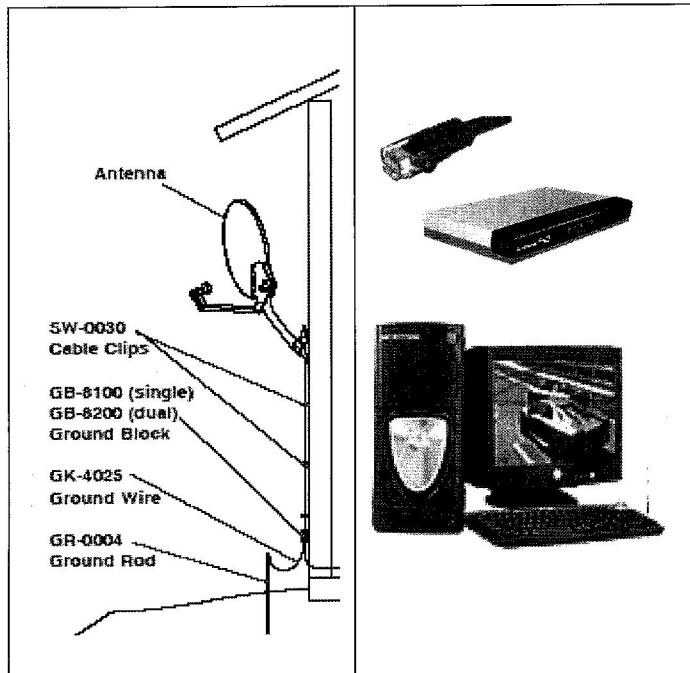

FIGURE 3
STEP 1. After confirming that you have a line of sight from where you wish to mount the dish, you must determine how you are going to mount the dish and run your coax downlead to your SW-10 Modem. Figure 3 shows a typical home installation. As indicated in the figure, you must ground both the dish and the coax downlead before it enters your home.